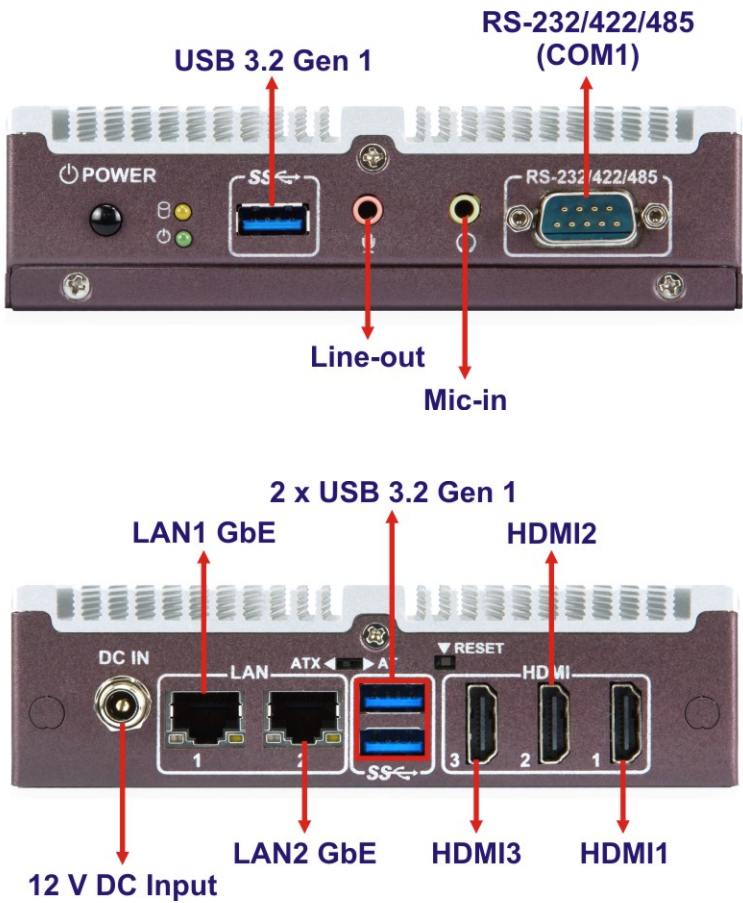

Figure 3-17: External Peripheral Interface Connectors
The locations of the external peripheral interface connectors are shown in **Figure 3-17**.
CN Location: See Figure 3-17
- CN Location:** See **Figure 3-17**
See Figure 3-17
CN Location: See **Figure 3-17**